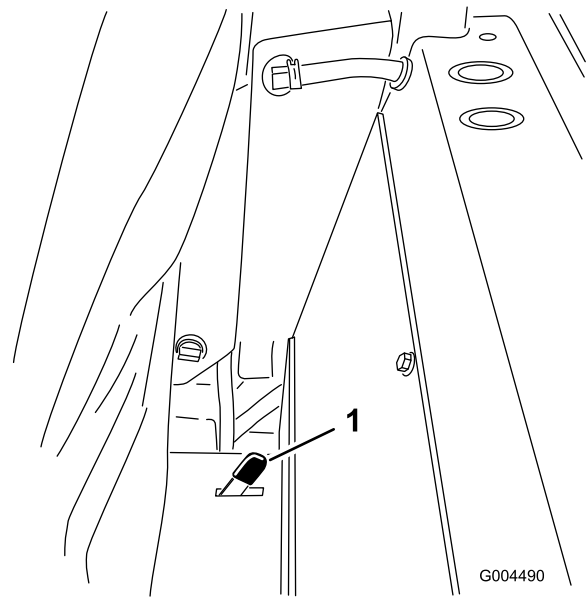

Figure 35
2. Push one of the seat latches, located behind and to the sides of the seat, rearward to unlatch the seat and pull forward on the top of the seat (Figure 35).